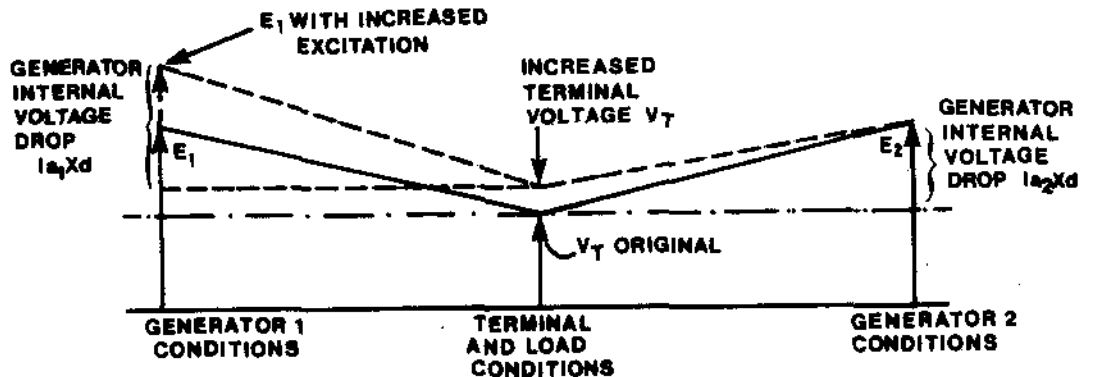

Figure 3: Diagram showing how  $V_T$  rises with increased excitation on G1. Note, this diagram is a scalar representation of the voltages.
- (a) Increasing the excitation on G1 will cause it to produce a greater field flux. This greater flux will produce a larger value of  $E_1$ . This higher value of  $E_1$  will cause the terminal voltage  $V_T$  to rise, Figure 3 shows the induced voltages, the internal voltage drops within the two generators and the common terminal (and load) voltage  $V_T$ .